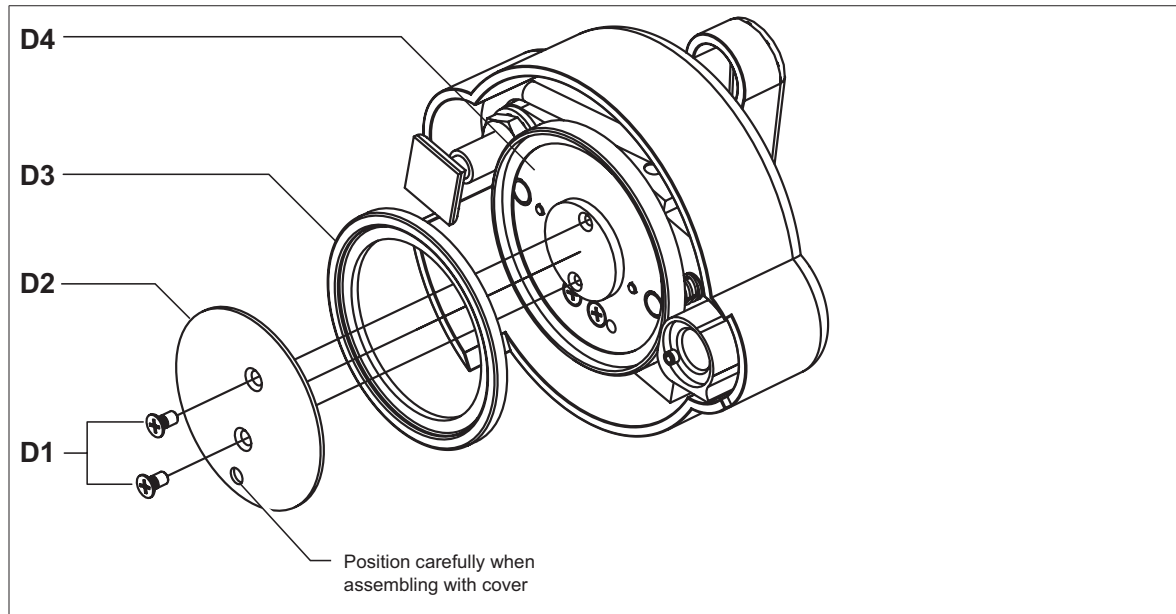

Fig. 6.5/1: Replacing the cover gasket
6. Fit the gasket-holder. In doing so position the vent hole carefully (see fig. 6.5/1). Tighten the fixing screws alternately.